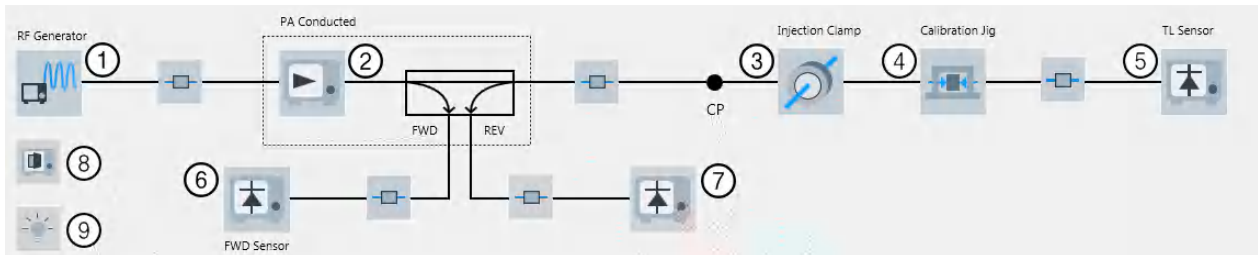

Figure 4-149: EMS hardware setup diagram (conducted) for BCI in Calibration View
- The "Calibration View" (see Figure 4-149)